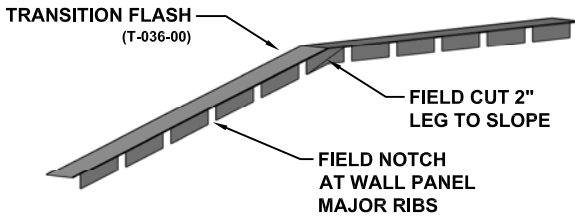

FIGURE 13
4. Transition Flashing (T-036-00), 2" x 4" angle flashing, 2" leg down, 4" leg over the roof panel. In the center of the flash, make a single cut in the 2" leg. This will allow the flashing to follow the roof slope. With the flashing centered on the canopy, push the flashing to the wall and mark a vertical lines on the 2" leg on each side of the major ribs. Notch the 2" leg as in **Figure 13**. Trim off any part of 2" leg that interferes with the horizontal channel.